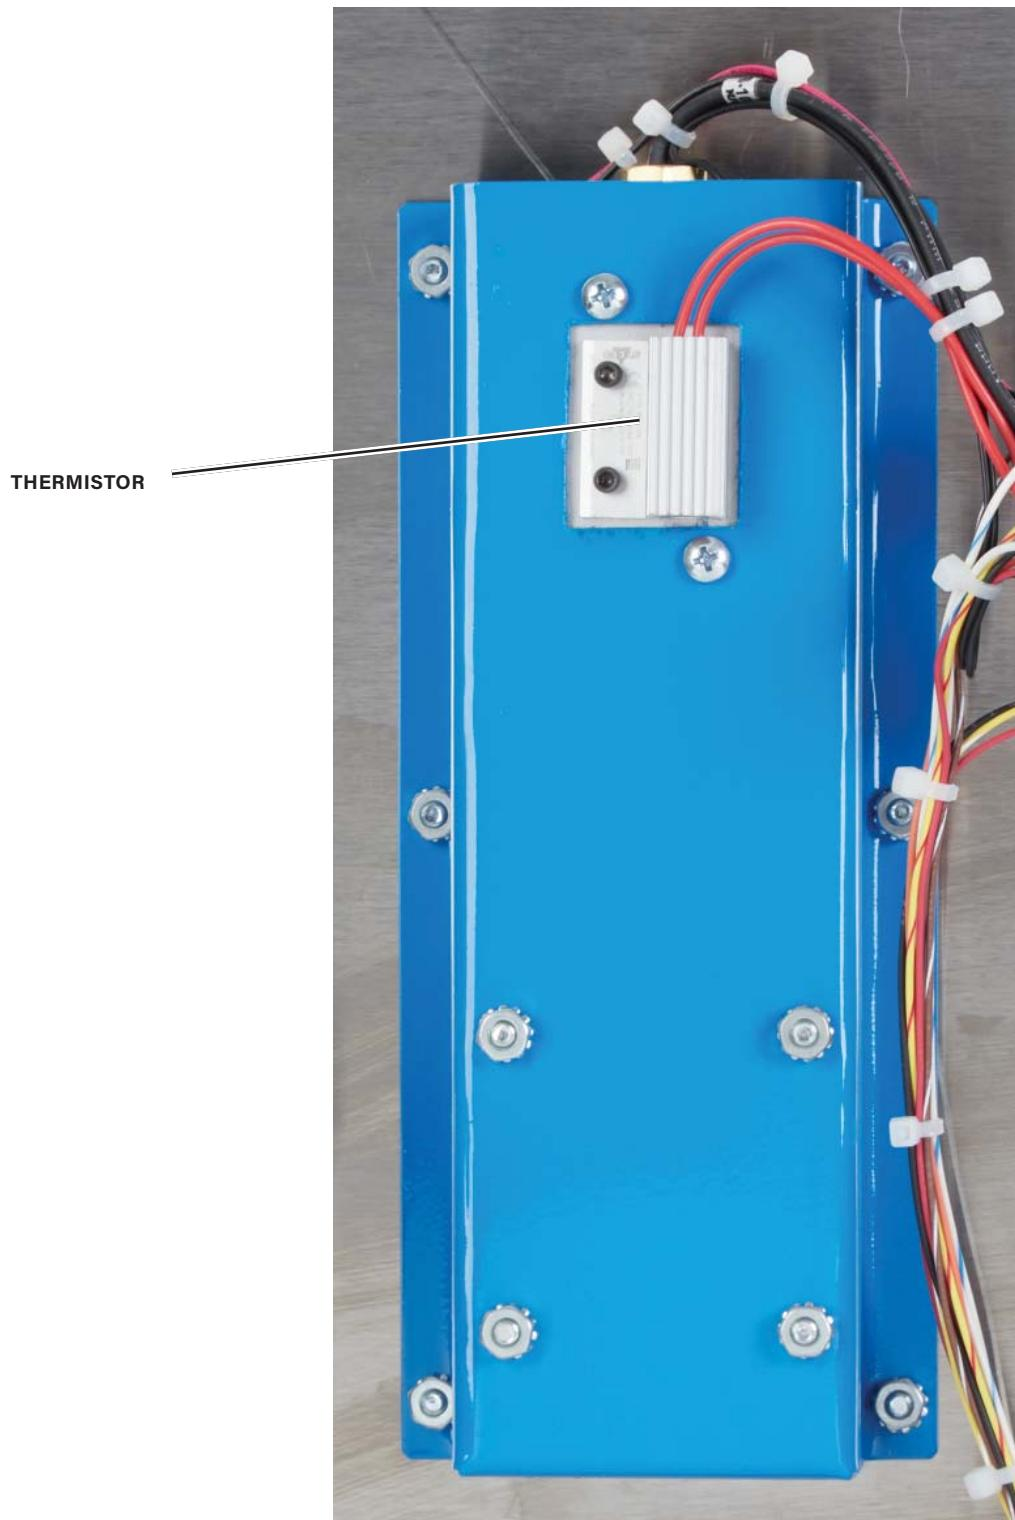

Figure 2-8. Thermistor
B. Examine the image of the temperature sensor used in the cooling application system shown in figure 2-8.